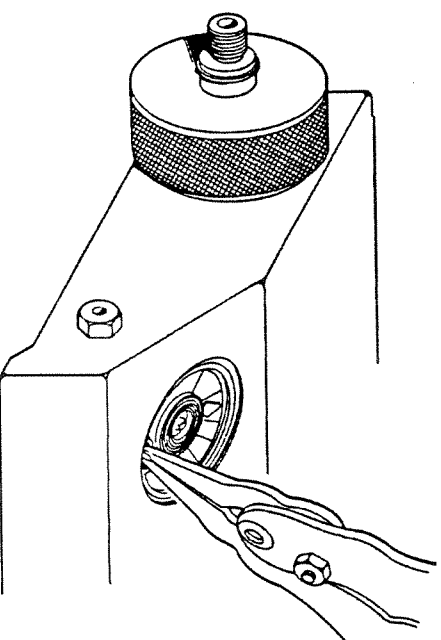

FIGURE 4-5 REMOVING THE GAUGE RETAINING RING
6. Use retainer ring pliers to remove the gauge retaining ring (Figure 4-5).